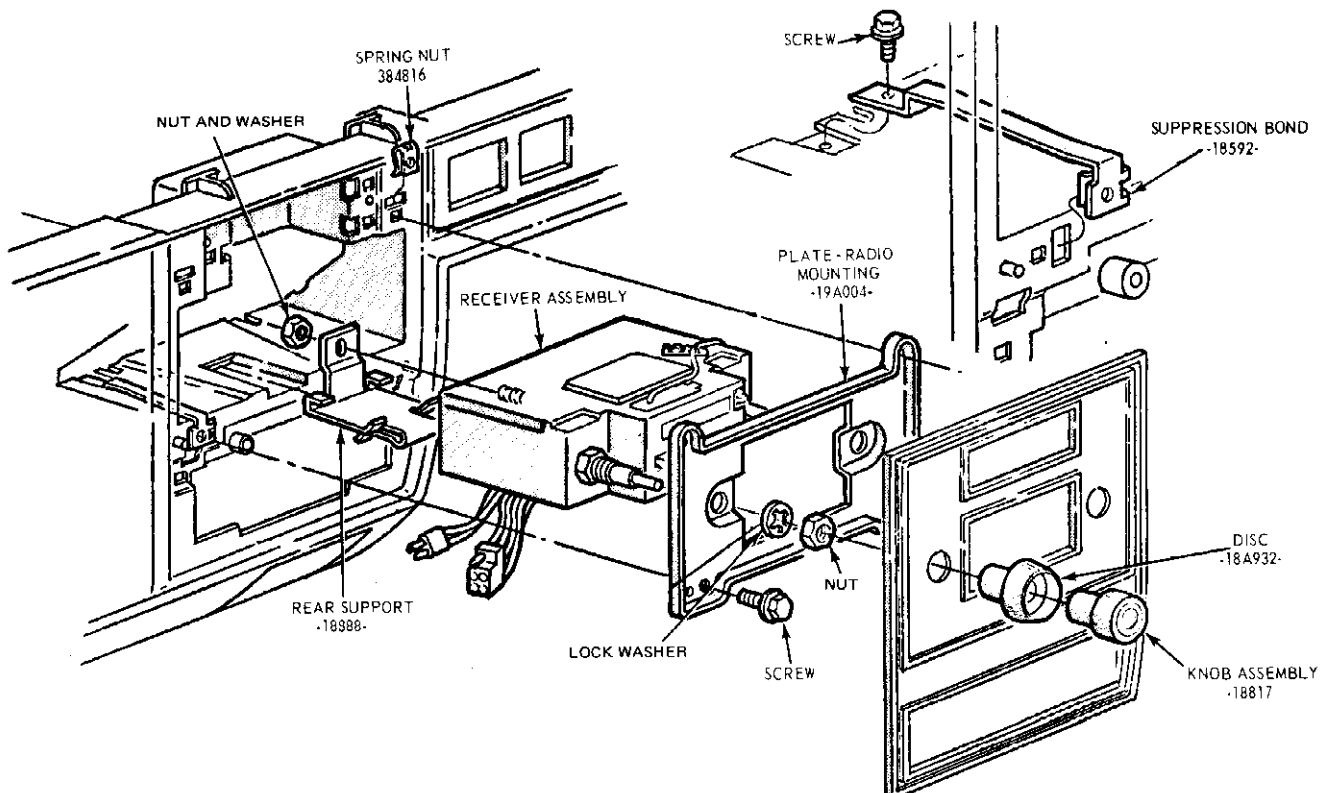

FIG. 1 Radio Installation—Ford, Mercury and Lincoln Continental
2. Remove the radio knobs and the screws attaching the bezel-to-instrument panel (Fig. 1).